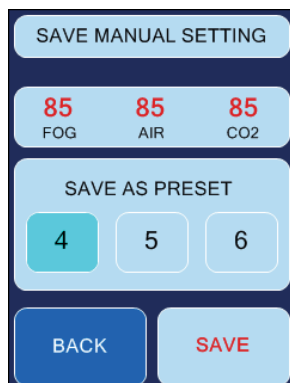

Fig. 5 Save Manual Setting
- Press **SETTINGS** and at the displayed screen (Fig. 2) **SAVE MANUAL SETTING**, to get to the **SAVE MANUAL SETTING** screen (Fig. 5).